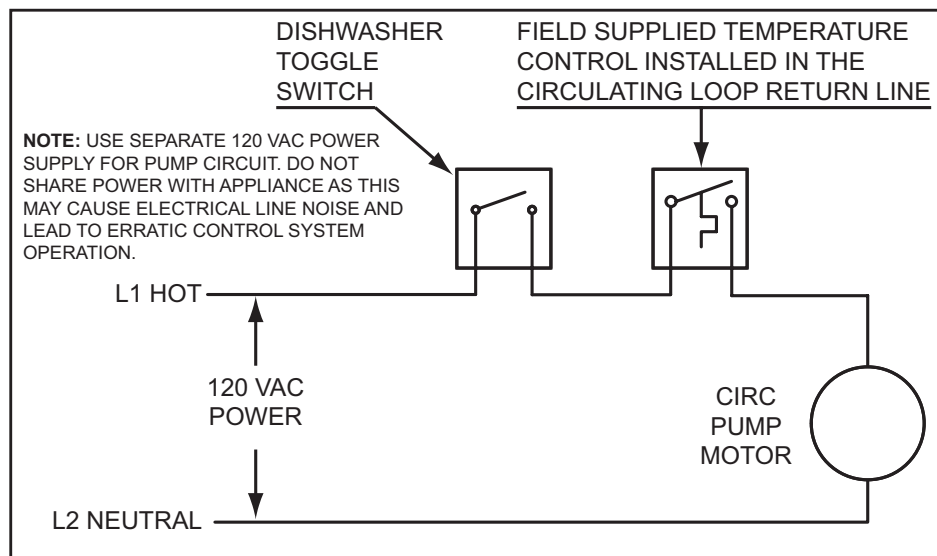

Figure 64
6. If a pump is being installed between a water heater and storage tank or on a building recirculation loop wire according to Figure 64 on page 66.
7. If a pump is being installed in a recirculation loop between the water heater and a commercial dishwasher wire according to or Figure 64 on page 66.